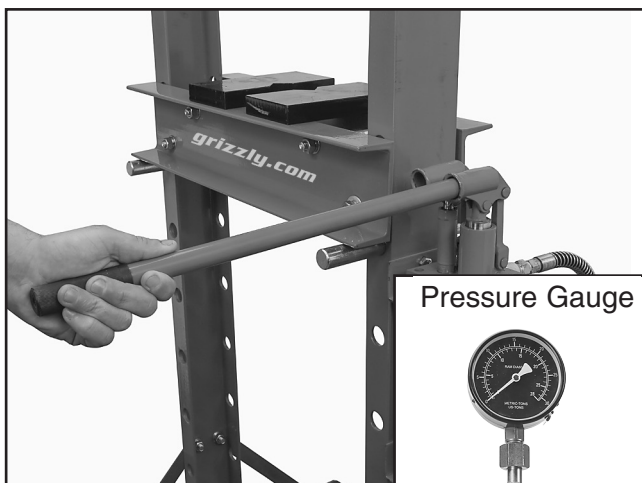

Figure 15. Pumping handle to increase pressure, which is indicated on pressure gauge.
4. Pump handle to lower ram or increase downward pressure. Refer to pressure gauge for actual workpiece pressure (see **Figure 15**). Ram should lower smoothly.